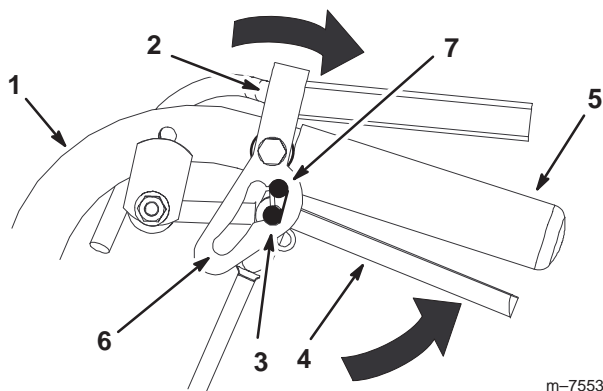

Figure 16
1. Squeeze the drive levers back to neutral position (Fig. 16).
2. Place thumbs on the upper part of the neutral locks and rotate them back (Fig. 16).